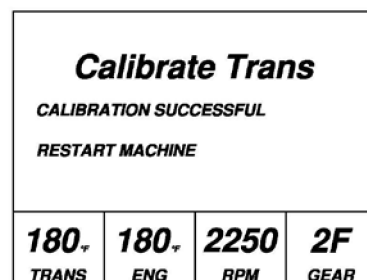

Figure 8
13. If the cal was successful the screen in Figure 8 will be displayed.